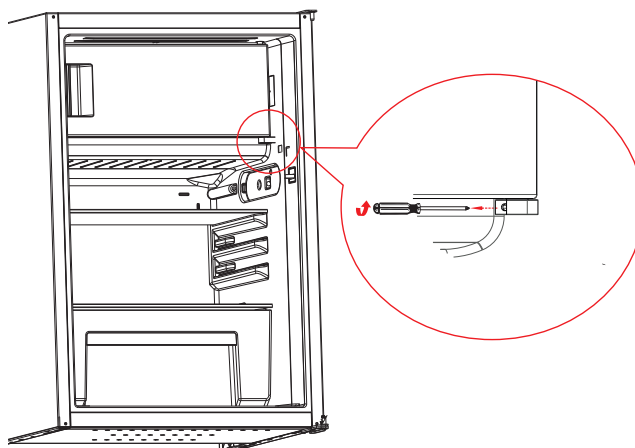

Fig. 4
- ▶ Use a Phillips screwdriver to remove the screws on the freezer compartment hinge (Fig. 4).